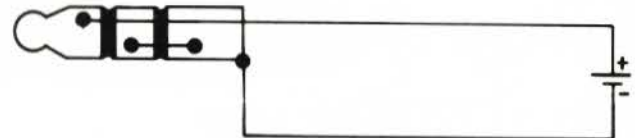

Figure 3. Connecting 1.019 volt Cell.
a. Connect a laboratory type cadmium cell (1.019 volts) to the INPUT jack on the Preamplifier panel as shown in figure 3.